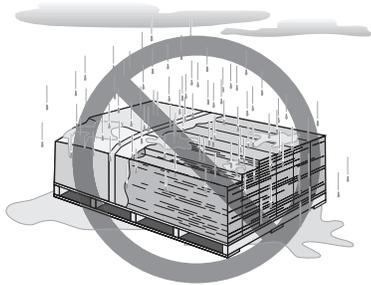
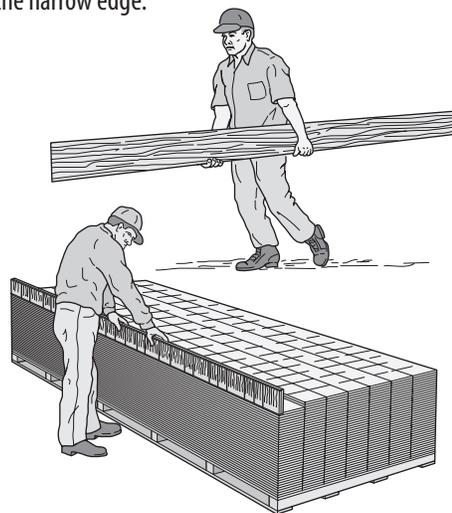

Fig. 3.3 **PROPER HANDLING**
Fig. 3.4 **IMPROPER HANDLING**
- ▶ If handled incorrectly, the surface of prefinished boards will scratch. Always pick up the boards from the center to avoid marring the surface of the board below (Fig.3.3, Fig. 3.4).